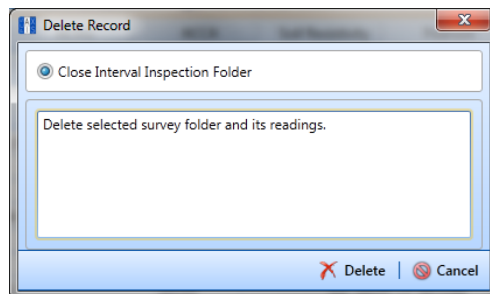

Figure 5-8. Delete Record
- 6 Click  **Delete**. When the message *Delete Record* displays, click  **Delete** again (Figure 5-8).